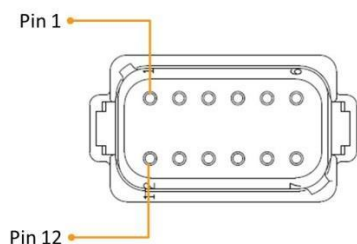

Figure 8: DT connector pinout
- ! Note that the pin-order 1-12 in tables below are oriented as when looking at the receptacles from the rear of the CCpilot VS 12" device, i.e. pin 1 at *top-left* position and pin 12 at *bottom-left* position, see Figure 8.